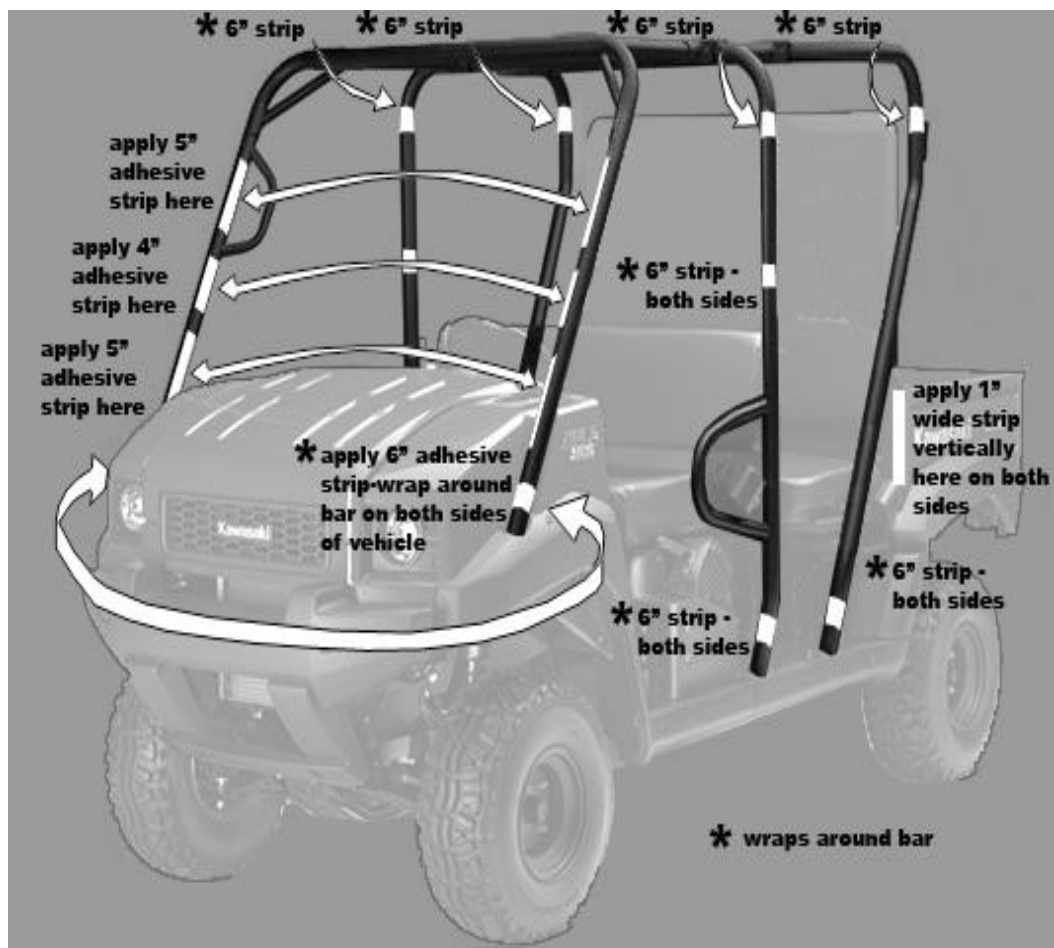

Fig.1
each side of the roll cage. Wrap the double-sided Velcro straps around the hook strips to attach the center of the top of the enclosure. See diagram in fig.1.
7. Now zip the side doors onto the enclosure one at a time starting with the front/top main zipper. Next zip down the side of the rear window. There are three double-sided Velcro straps on the inside of the doors that attach to the frame; mark their positions on the frame and wrap the tubes with a 6" adhesive hook strip at each location. Attach the double-sided Velcro strips on the enclosure to the hook strips on the frame. The only remaining adhesive Velcro strips should be the two 8" x 1" pieces provided. At the rear of the door panels there are two 8" Velcro tabs sewn into the door panels. Apply adhesive hook strips to the bed of the vehicle at these locations, running vertically. Attach the Velcro tabs on the enclosure to the adhesive hook strips on the bed. See figs. 1 and 3.